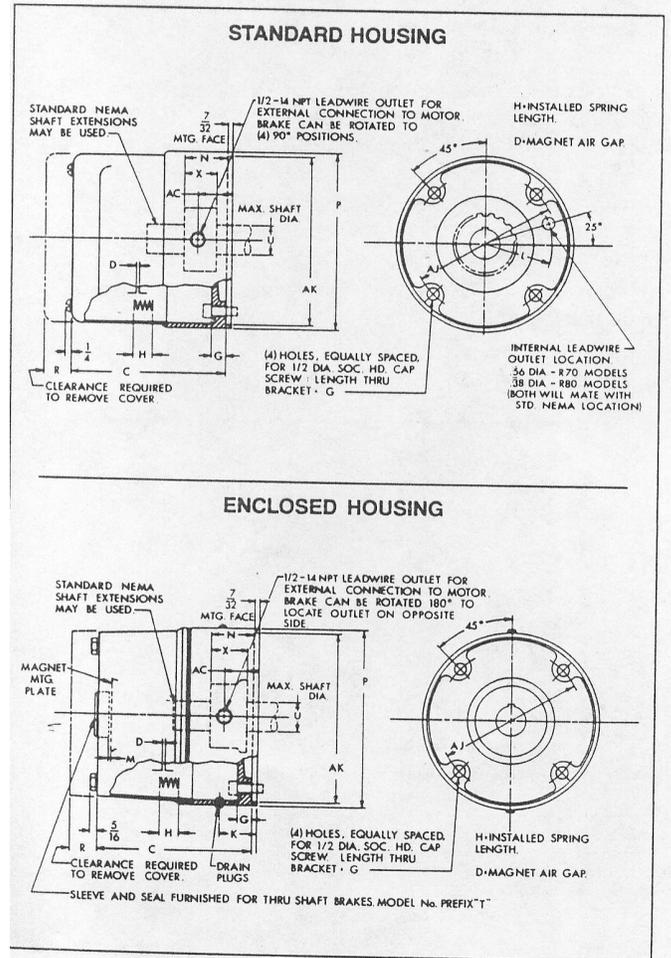

Figure 3.
Refer to Figures 3 & 5, Tables 1, 2 & 4
1. Remove hub (1) from brake and position on motor shaft with key according to dimension "N". Stamped part number on hub should face away from motor. Tighten hub set screws with 12 ft. lbs. torque. On Mark II release models, motor shaft should not extend beyond hub.
2. Remove cover screws (24) and cover (23), plus "O" ring (28) and gasket (32) on enclosed housing models. On Mark II models, move release lever to horizontal position. Remove cover.
4. Bolt brake to motor "C" face with four socket head cap screws. See Tables 1 and 2, and Figure 3 for screw size.
Refer to Figures 3 & 5, Tables 1 or 2
Refer to Figures 3, 4 & 5. Tables 1 or 2
Refer to Figures 3, 4 & 5